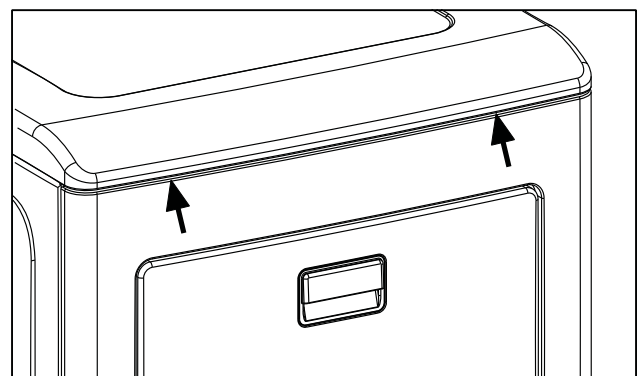

Figure 2
4. Use a thin flat head screwdriver to disengage the spring clips under the top cover.(Figure 2)